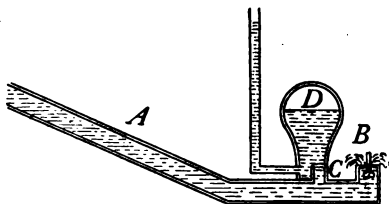

FIG. 47.—Cross-section of a hydraulic ram.
66. Hydraulic Ram.—The hydraulic ram (see Fig. 47) is an automatic device that is much used for raising water from springs to houses located on higher ground. Water flows through the pipe *A* through the opening at *B*. The pressure closes the valve at *B*. The increased pressure in the pipe due to the closing of *B* opens the valve *C* and some of the water flows into the air chamber *D*. This reduces the pressure against the valve *B* so that it drops and allows a little water to escape.